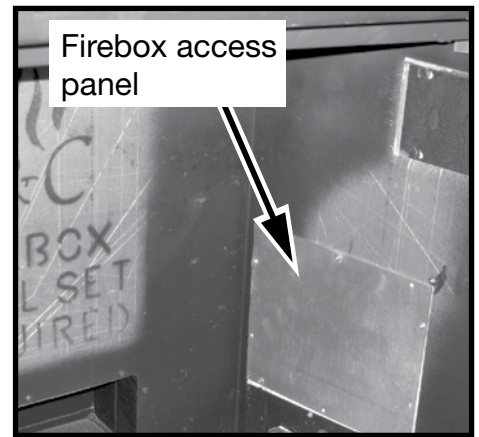

Figure 28: Access to firebox.
3. Remove access panel from right hand side of the firebox (Figure 28).